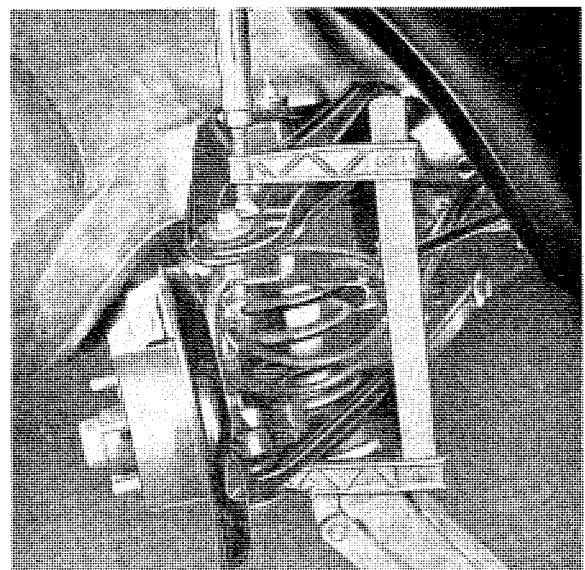

Fig. 6-24. Upper ball joint securely held by vise
2. Place the stub axle in position and tighten the ball joint nuts. If the ball joint twists, hold it firmly in position with a screw vise, see Fig. 6-24. Fit the steering onto the steering arm.
3. Turn down the control arm and tighten the nuts for the control arm shaft. Tighten the ball joint against the steering knuckle. If the pin rotates, hold it firmly with a screw vise, see Fig. 6-24.